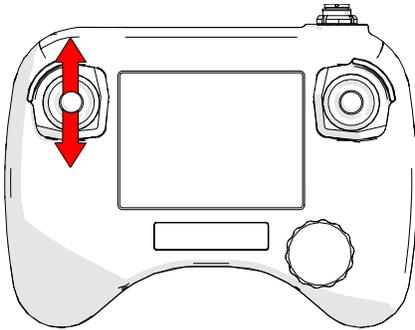
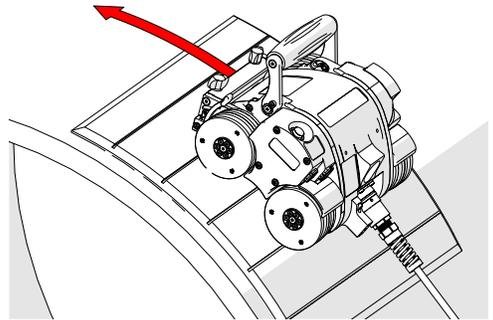
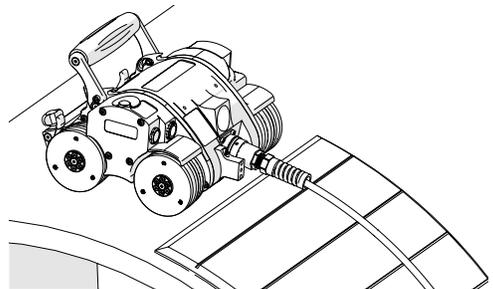

Fig. 216 - Drive the crawler
Fig. 217 - Drive crawler off the mat
Fig. 218 - Magnetized to surface
5. Ensure all four wheels of the crawler are held firmly against the installation/removal mat. While holding the crawler, use the Fwd/Rev joystick (Fig. 216) to carefully drive the crawler (Fig. 217) off the installation/removal mat and onto the inspection surface (Fig. 218).